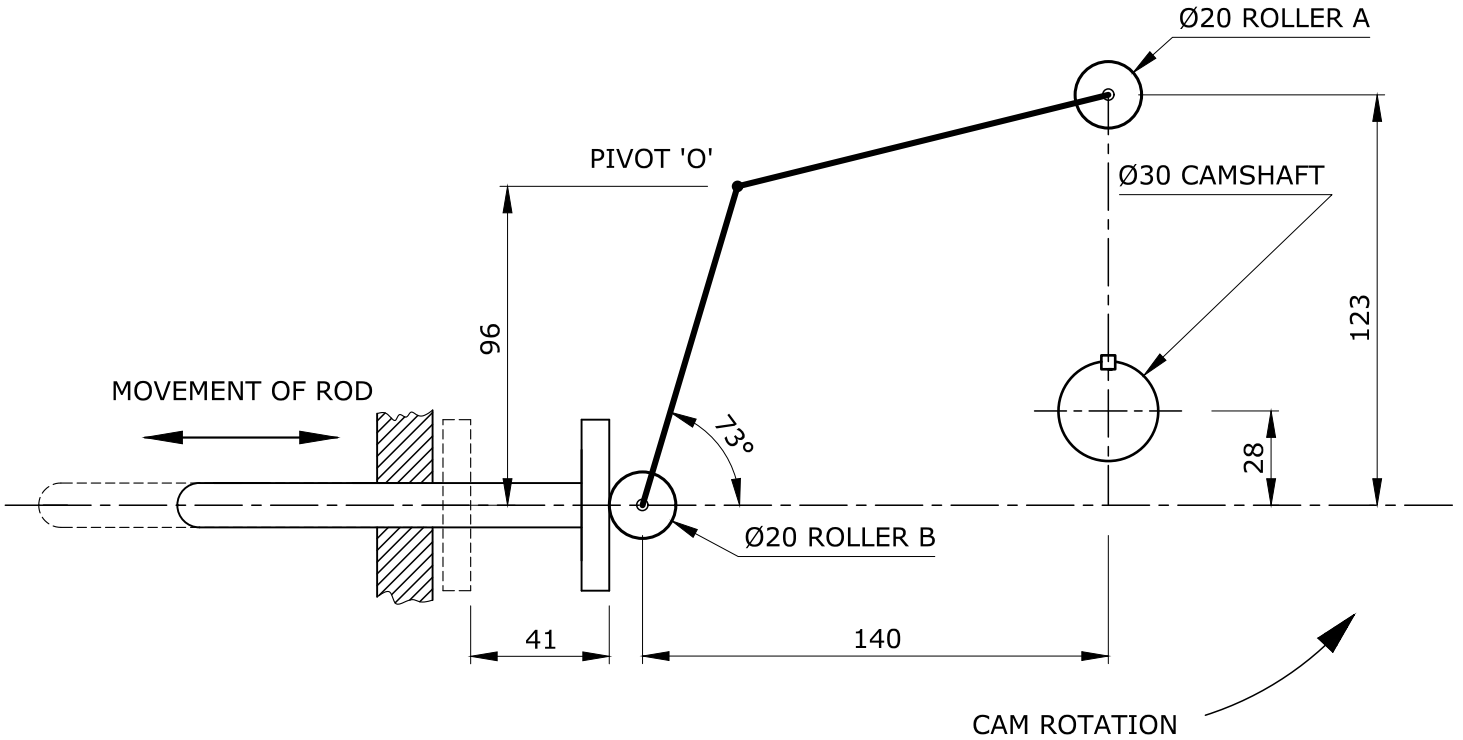

Figure 5c
A line drawing of the top start position of the cam mechanism is given in Figure 5c.
- a. construct a line drawing of Figure 5c; (3)
- b. locate the minimum position of roller follower 'A' when roller 'B' moves the sliding rod the distance of 41 mm to the left; (2)
- c. determine and state the minimum cam radius; (2)
- d. draw the cam displacement diagram; (6)
- e. construct the cam profile. (7)